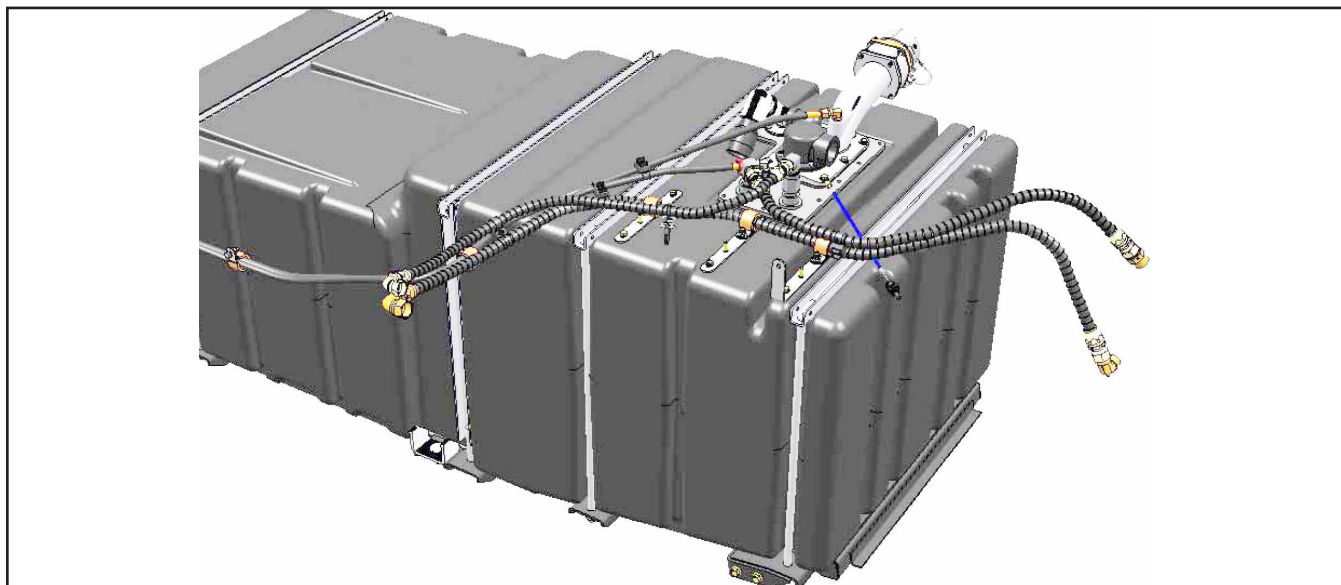

Figure 11 - Hose Assemblies
- 1.18. Transfer the remaining hoses and hoses supports from the existing fuel tank to the new plastic tank. See Figure 11.